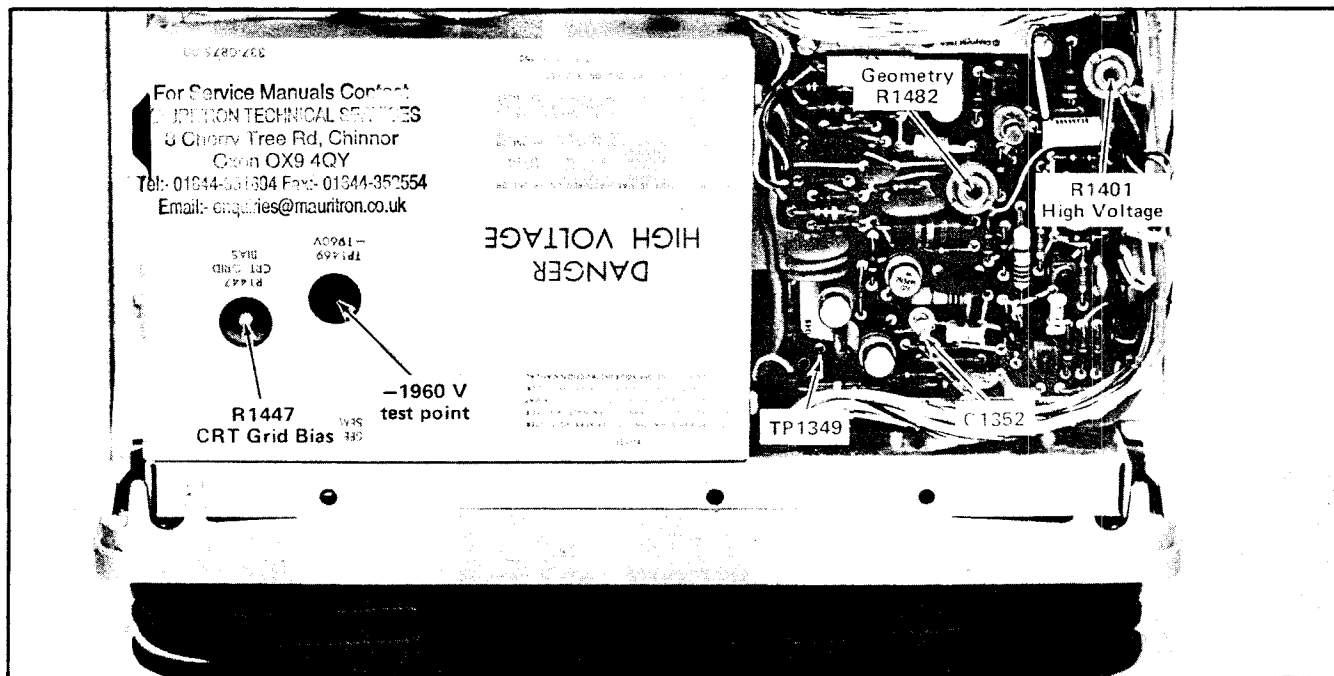

Fig. 5-5. Location of high-voltage and Z-AXIS adjustments and test-points.
a. Connect the precision DC voltmeter (use the precision 2 kV divider) between the -1960 V test point (see Fig. 5-5) and chassis ground.
c. ADJUST—High-Voltage adjustment R1401 (see Fig. 5-5) for a meter reading of -1960 volts ( $\pm 19.6$  volts).
a. Connect the precision DC voltmeter between TP1349 (Z Axis Amplifier board; see Fig. 5-5) and chassis ground.
d. ADJUST—CRT Grid Bias adjustment, R1447 (see Fig. 5-5), so the spot on the CRT just disappears (it may be necessary to turn the horizontal POSITION control clockwise to bring the spot onto the viewing area).
- c. ADJUST—Geometry adjustment, R1482 (see Fig. 5-5 for minimum bowing of the trace at the left and right edges of the graticule.
- b. Connect the 10X probe tip to TP1349 (see Fig. 5-5).
- f. ADJUST—C1352 (see Fig. 5-5) for optimum square corner on the unblanking gate.